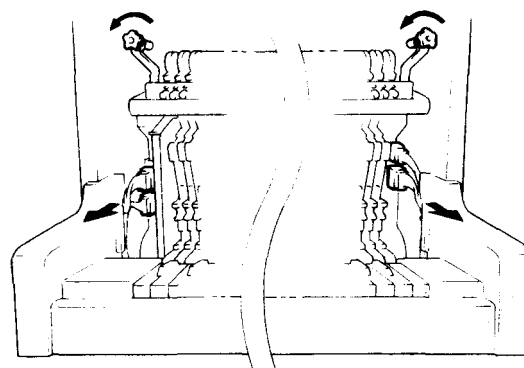

Figure 4.
- 11) Take off the knob bolt, and remove the action unit. (See Figure 4.)